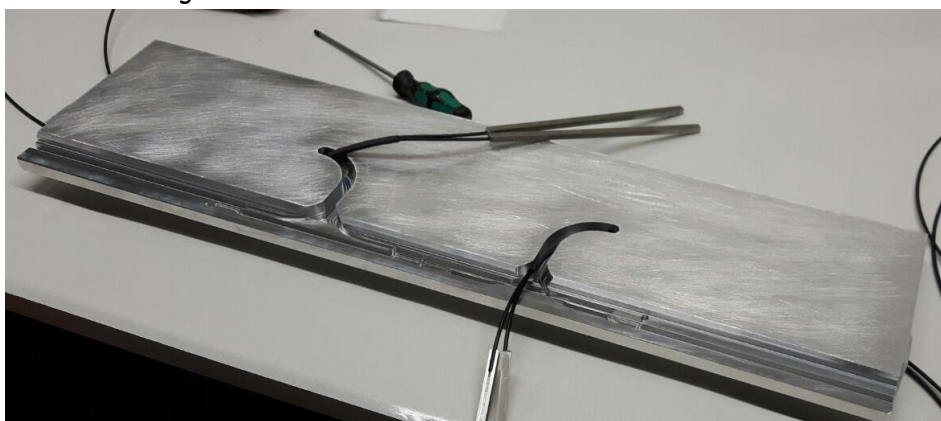

Figure 18 Sets of light bars thread into endplug
3.2.3.2 *Start by making two sets of two light bars. To prevent the cables jumping out later, assemble the set with the shrinking tube (without applying heat!!!) and thread it into the routing groove until the VCSEL pocket as shown in "Figure 18".*